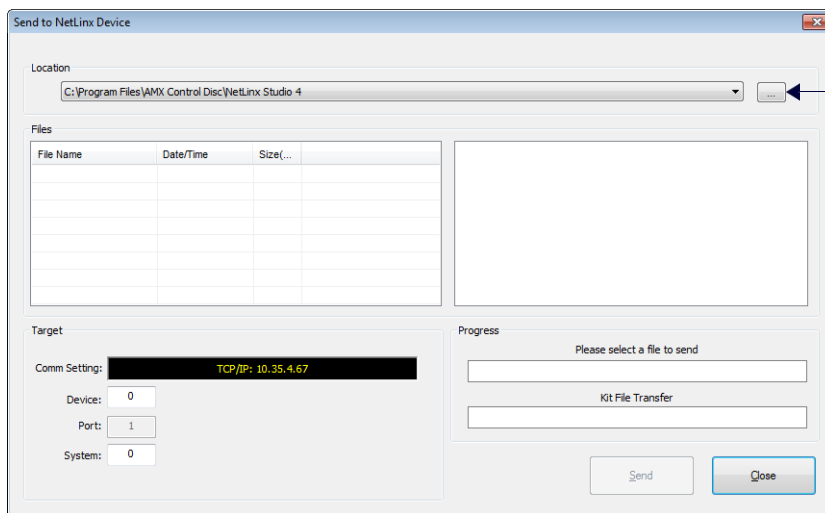

FIG. 138 Send To NetLinX Device dialog (NetLinX Studio)
2. In NetLinx Studio, choose **Tools > Firmware Transfers > Send to NetLinx Device** to open the Send to NetLinx Device dialog (FIG. 138):